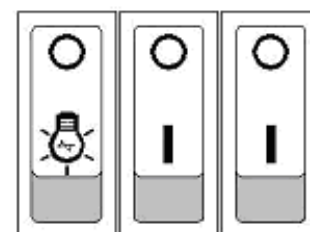

Fig.4
- The first switch marked with a light bulb controls the lamp and flame effect as shown in Fig.4.